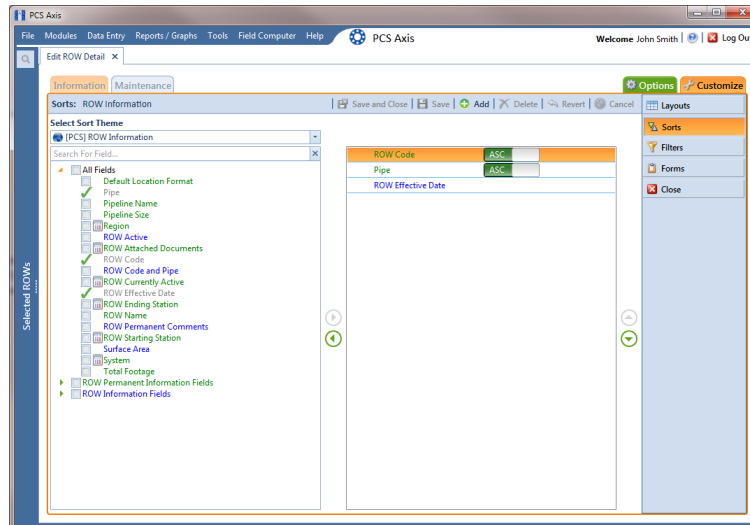

Figure 4-36. Sorts
- 4 Click the **Customize** tab  then the **Sorts** button  to open the *Sorts* page (Figure 4-36).